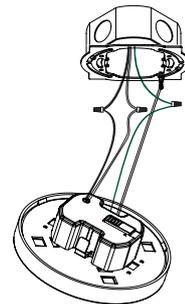

fig. 3
4. Wire to the power source (black to hot, white to neutral, green to ground). For 0-10V dimming circuits, connect pink to pink (Dim -) and purple to purple (Dim +). (fig. 3)